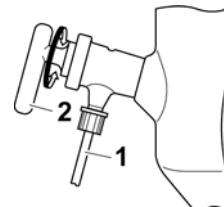

Fig. 4-23: Inlet hose
The system can be aerated via the cock plug (Fig. 4-23 (2)) of the inlet pipe:
- Turn the cock plug (Fig. 4-23 (2)) of the inlet pipe slowly upward.